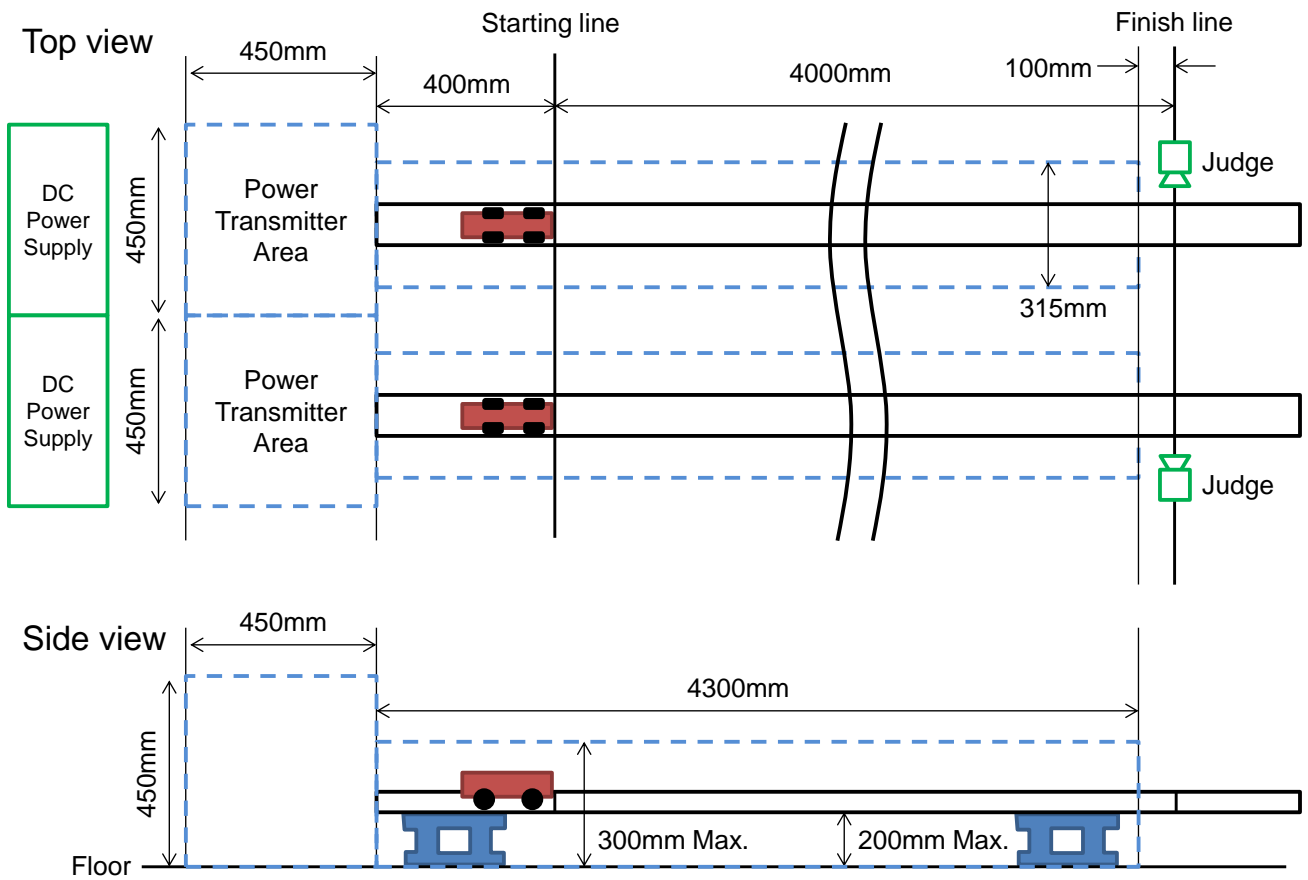

Figure 3
- You must put the transmitter within the blue dotted line shown in the top view in Fig. 3.